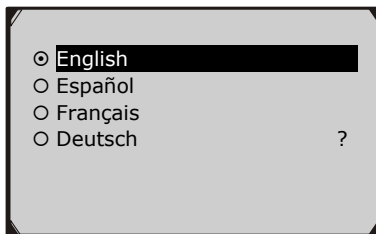

Figure 3.4
- 2) Use the **UP/DOWN** scroll button to select the desired language and press the **OK** button to save your selection and return to previous screen. (Figure 3.4)